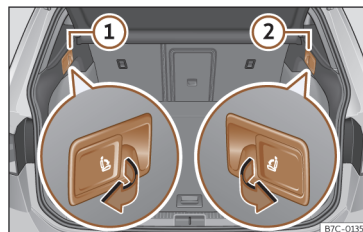

Fig. 103 In the luggage compartment: levers for remote release of the left part ① and right part ② of the rear seat backrest.
- Pull the unlocking lever >>> **Fig. 103** of the part of the backrest to fold down.